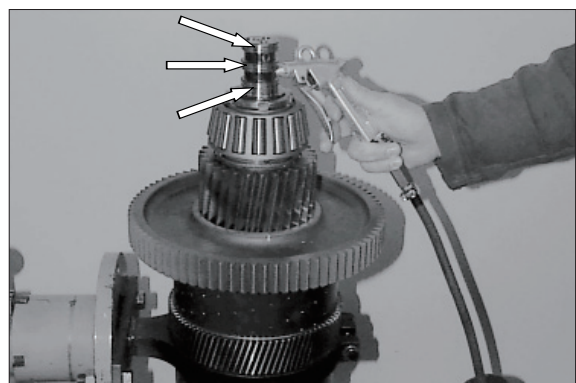

Figure 191
- (9) Check function of the clutches K3 and K4 by means of compressed air (figure 191).